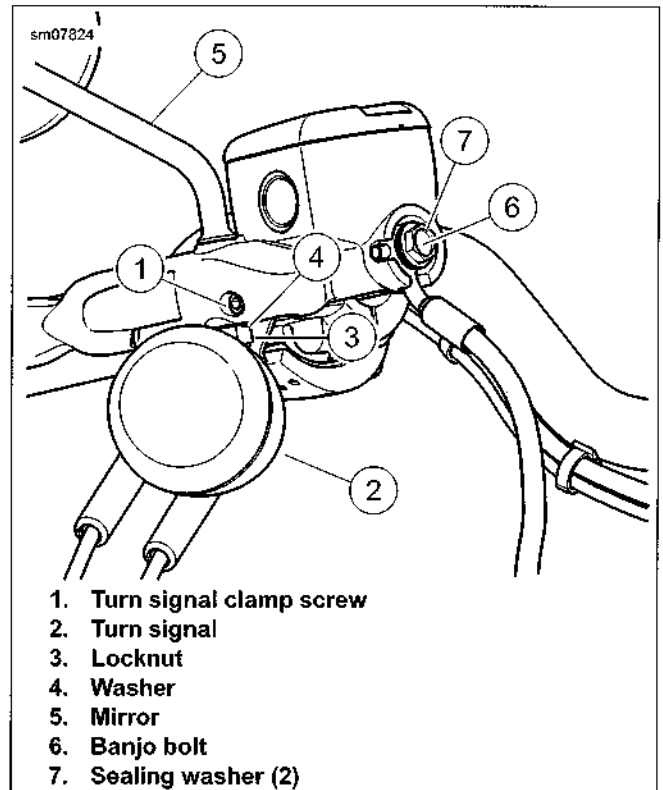

Figure 2-47. Front Brake Master Cylinder
1. **All models except XL 1200T/X** See Figure 2-47. Remove turn signal:
- a. Loosen turn signal clamp screw (1).
- b. Remove and support turn signal (2) and wire harness.
2. Remove locknut (3), washer (4) and mirror (5).